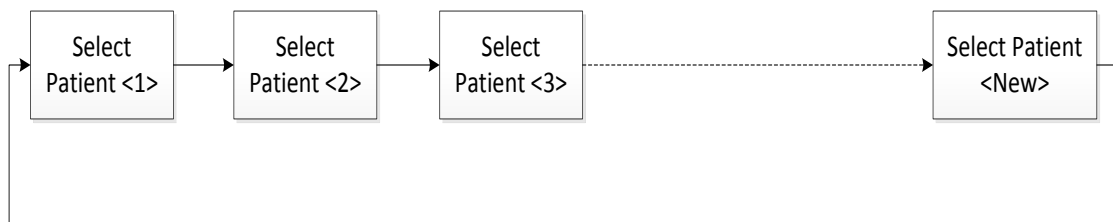

Fig. 4.12 Flow Chart for Switching among Patients
b) When the group number is not “New”, it is the Pre-set Patient mode, you can press the **Function** key to switch among patients as shown in Fig. 4.12. The pre-set patient list needs to be completed on the Tablet PC together with the Main Unit, please see **§4.4 Pre-set Patient List Mode** for detailed operation